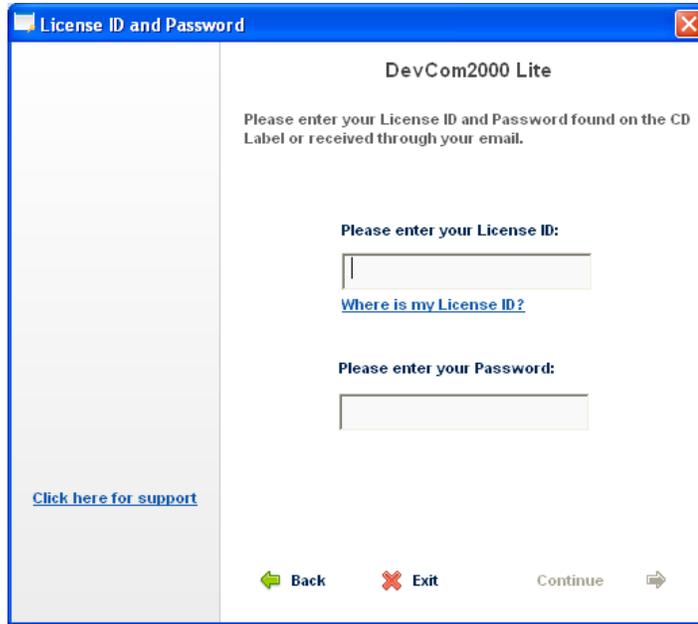

Figure 2 Activation Screen
4. The license ID and Password will be included in the email with the link to download the software. Enter this information in the Activation Screen (See Figure 2) and click “Continue”.